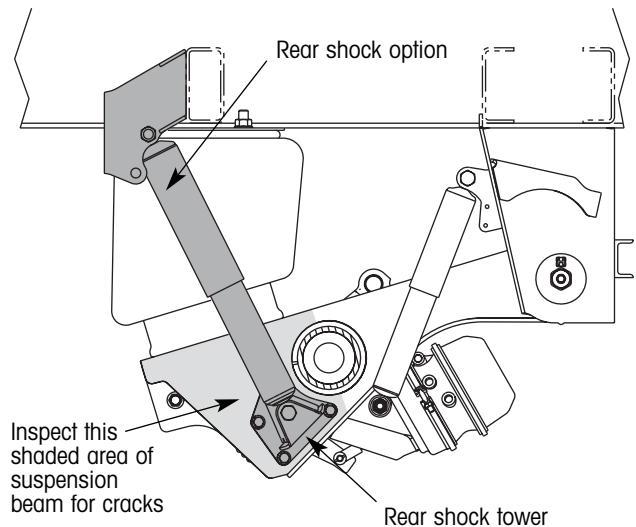

Figure 2. Inspect the suspension beam inboard surface
1. Inspect the inboard surface of each suspension beam for cracks (figure 2). Pay close attention to the area behind the axle and in the vicinity of the rear shock tower (figure 2).